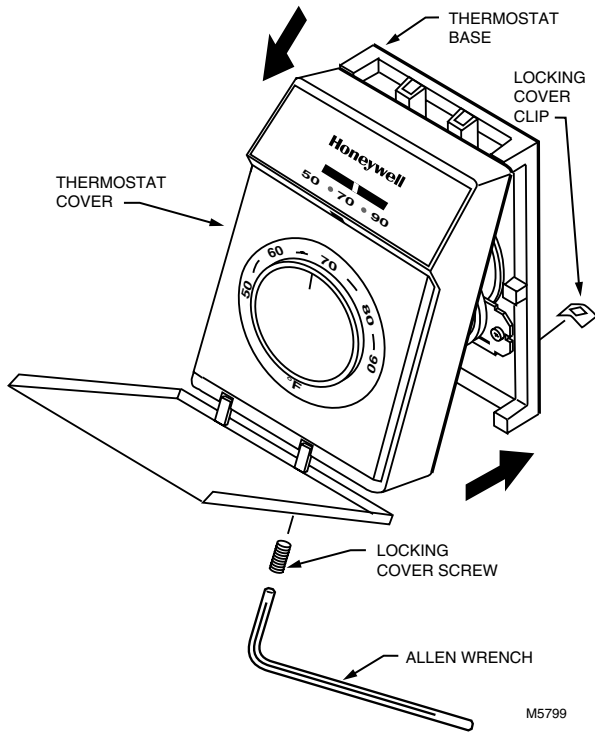

Fig. 7. Locking cover.
If locking cover feature is desired, insert the locking cover clip in the thermostat base before mounting the thermostat on the wall. See Fig. 7.
- 2 Insert the locking cover clip (included) into the slot on the back of thermostat base as shown in Fig. 7.